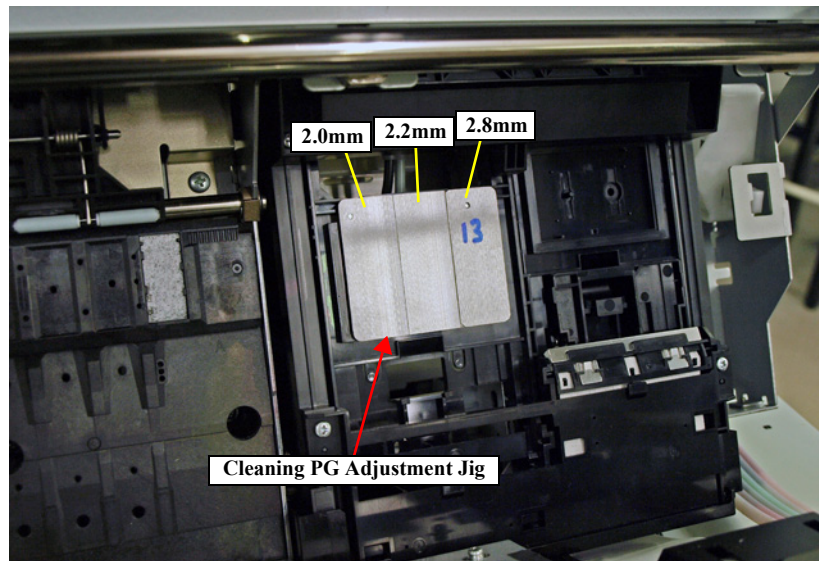

Figure 5-25. Position for the Jig
9. Set the Cleaning PG Adjustment Jig to the position shown in Figure 5-25.
18. Set the Cleaning PG Adjustment Jig to the position shown in Figure 5-25.